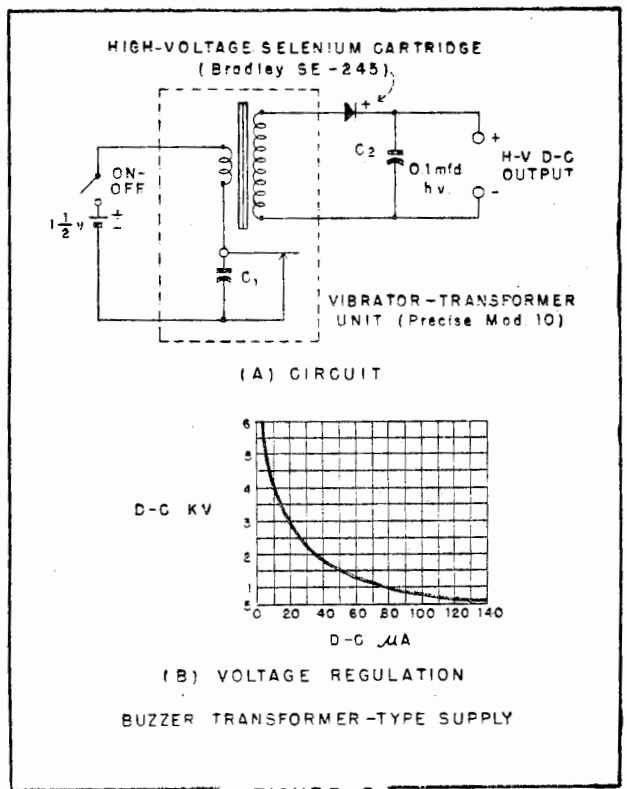

FIGURE 3
Figure 3(A) shows the circuit of a vibrator (buzzer) type high-voltage supply of this kind. This is a small unit such as Precise Model 10 (having about the same dimensions as a 6L6 metal tube) which plugs into an octal socket. The step-up transformer, vibrator, and spark suppression capacitor (C1) are self-contained.
The open-circuit output potential is 6,000 volts DC. Figure 3(B) shows the voltage regulation of the circuit. From this plot, it may be seen that the output voltage falls to approximately 500v at a current drain of 140 microamperes (load resistance of 3½ megohms). A potential of 1 kv is obtained at 70 µa drain. The output voltage may be regulated through the use of a filament-